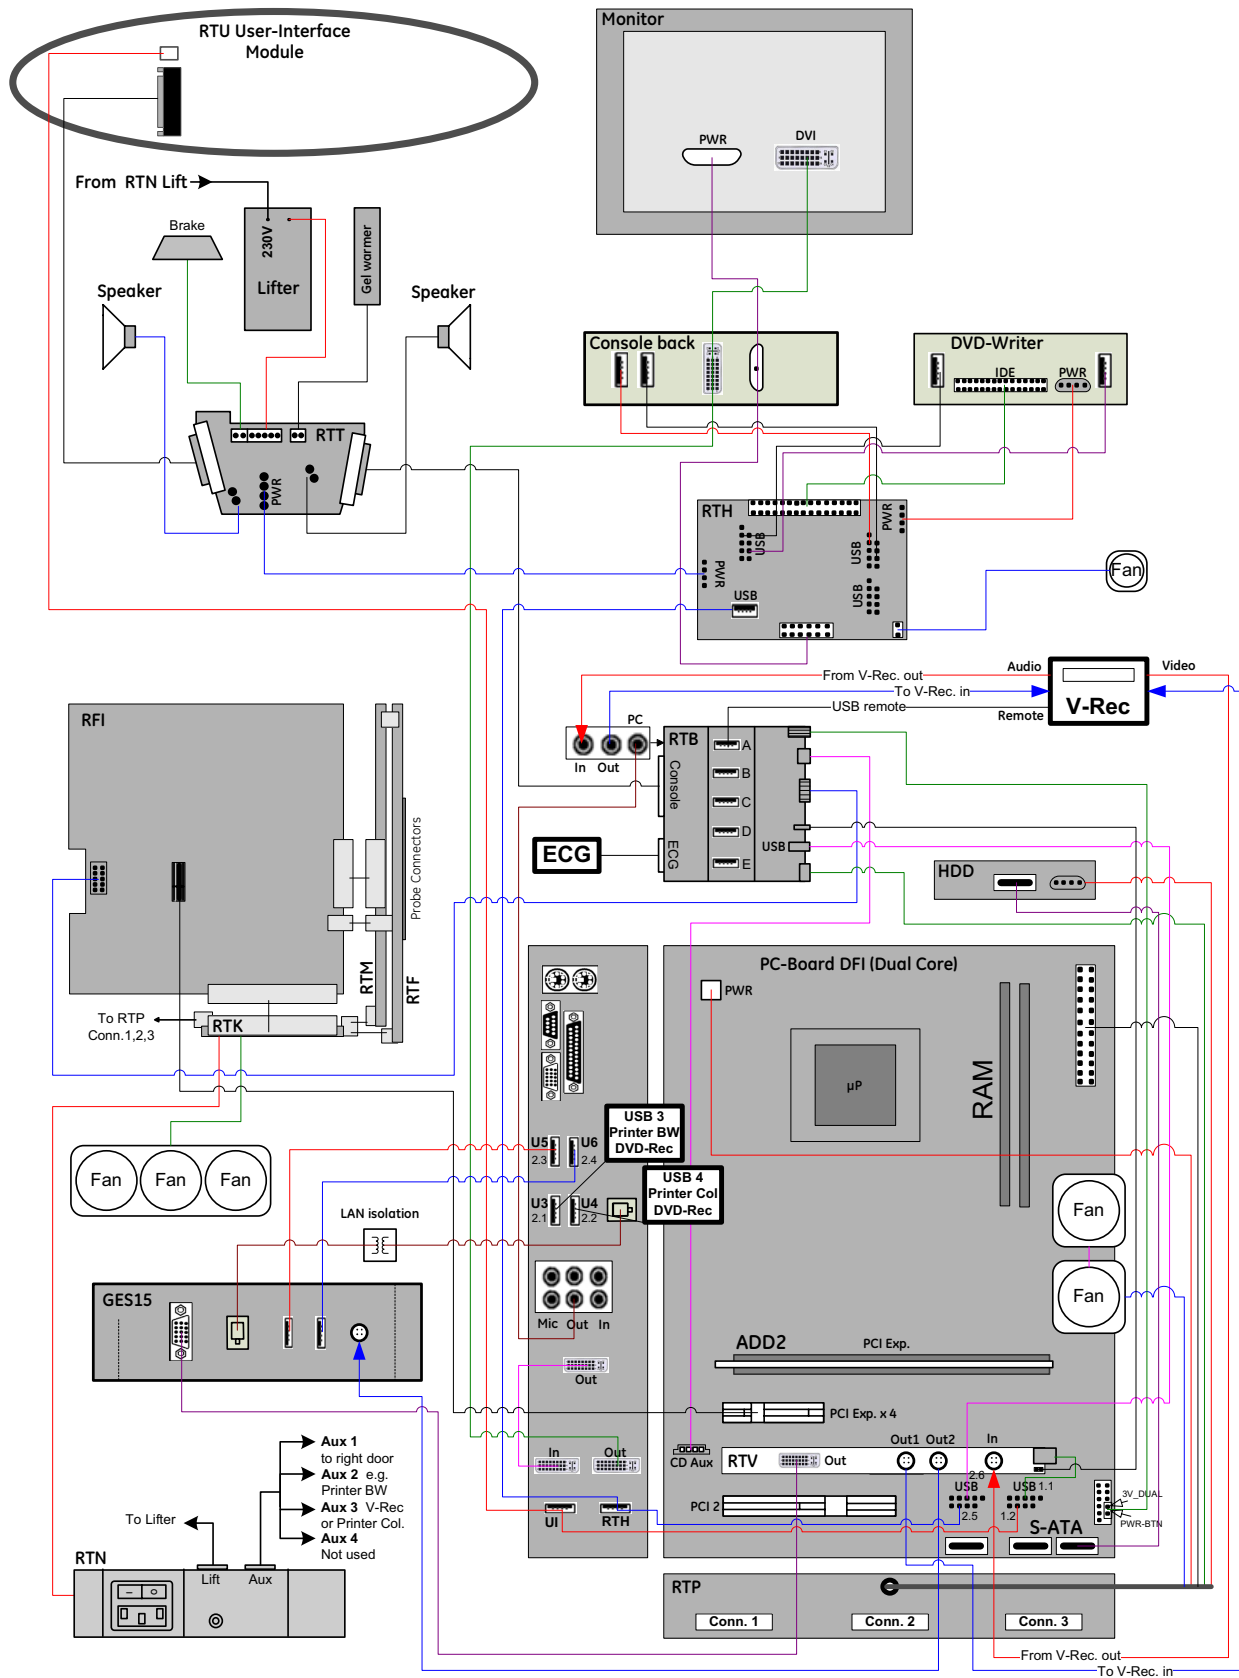

Figure 5-17 Voluson E6 (BT10): Internal I/O - DFI Dual-core PC-Motherboard
- “DFI Dual-core” PC Motherboard is installed, see: Figure 5-17 on page 5-41.